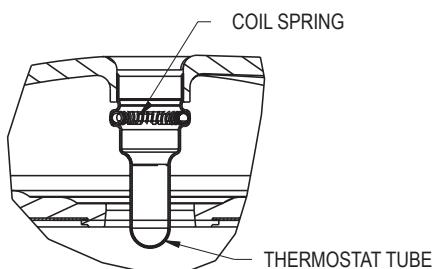

Figure 5. Coil spring location
- b. Verify the coil spring is seated in the thermostat tube groove area (see Figure 5) on the top of the compressor. (The spring is required for proper DTC valve installation)